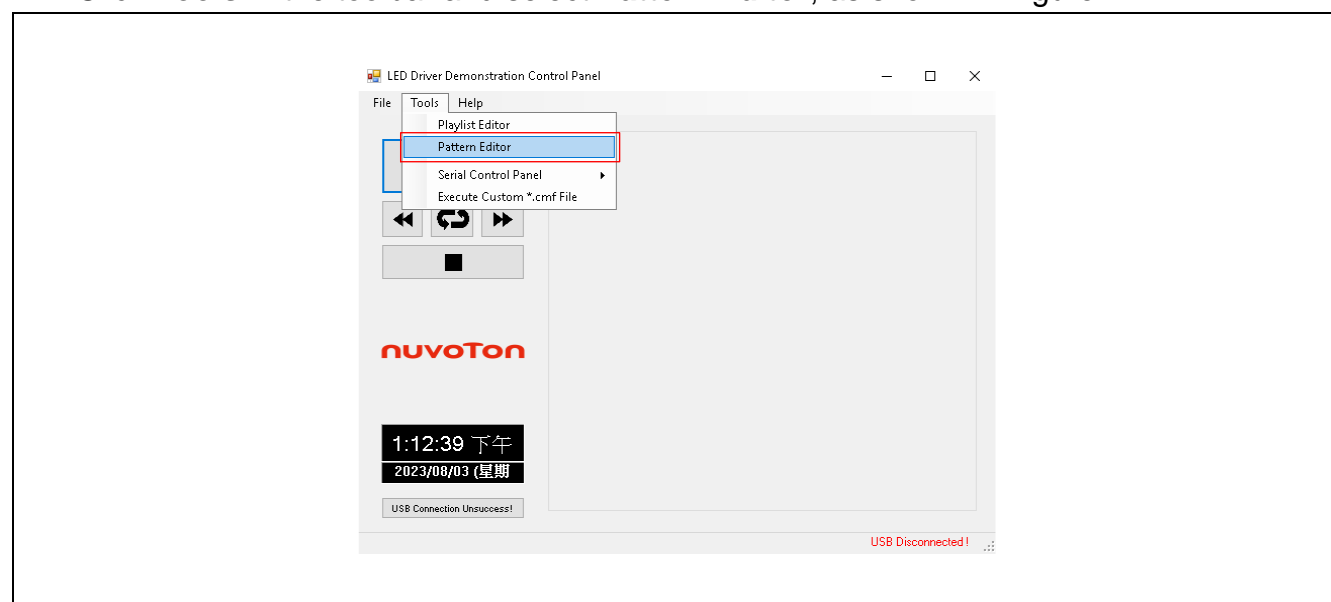

Figure 1-2 Start a New Pattern Editor Project in Main Screen
2. Click **Tools** in the toolbar and select **Pattern Editor**, as shown in Figure 1-2.